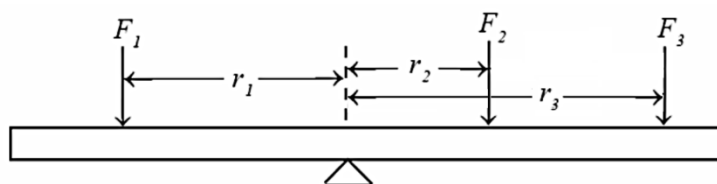

Figure 3
For the system in Figure 3, the condition for rotational equilibrium becomes:
5. Drop the ball at the middle of the top surface of the liquid. Then recorded the time (t) taken to travel a ball between two marks on the cylinder (as shown in Figure 3) by a stop watch. Take t_1 and t_2 ,